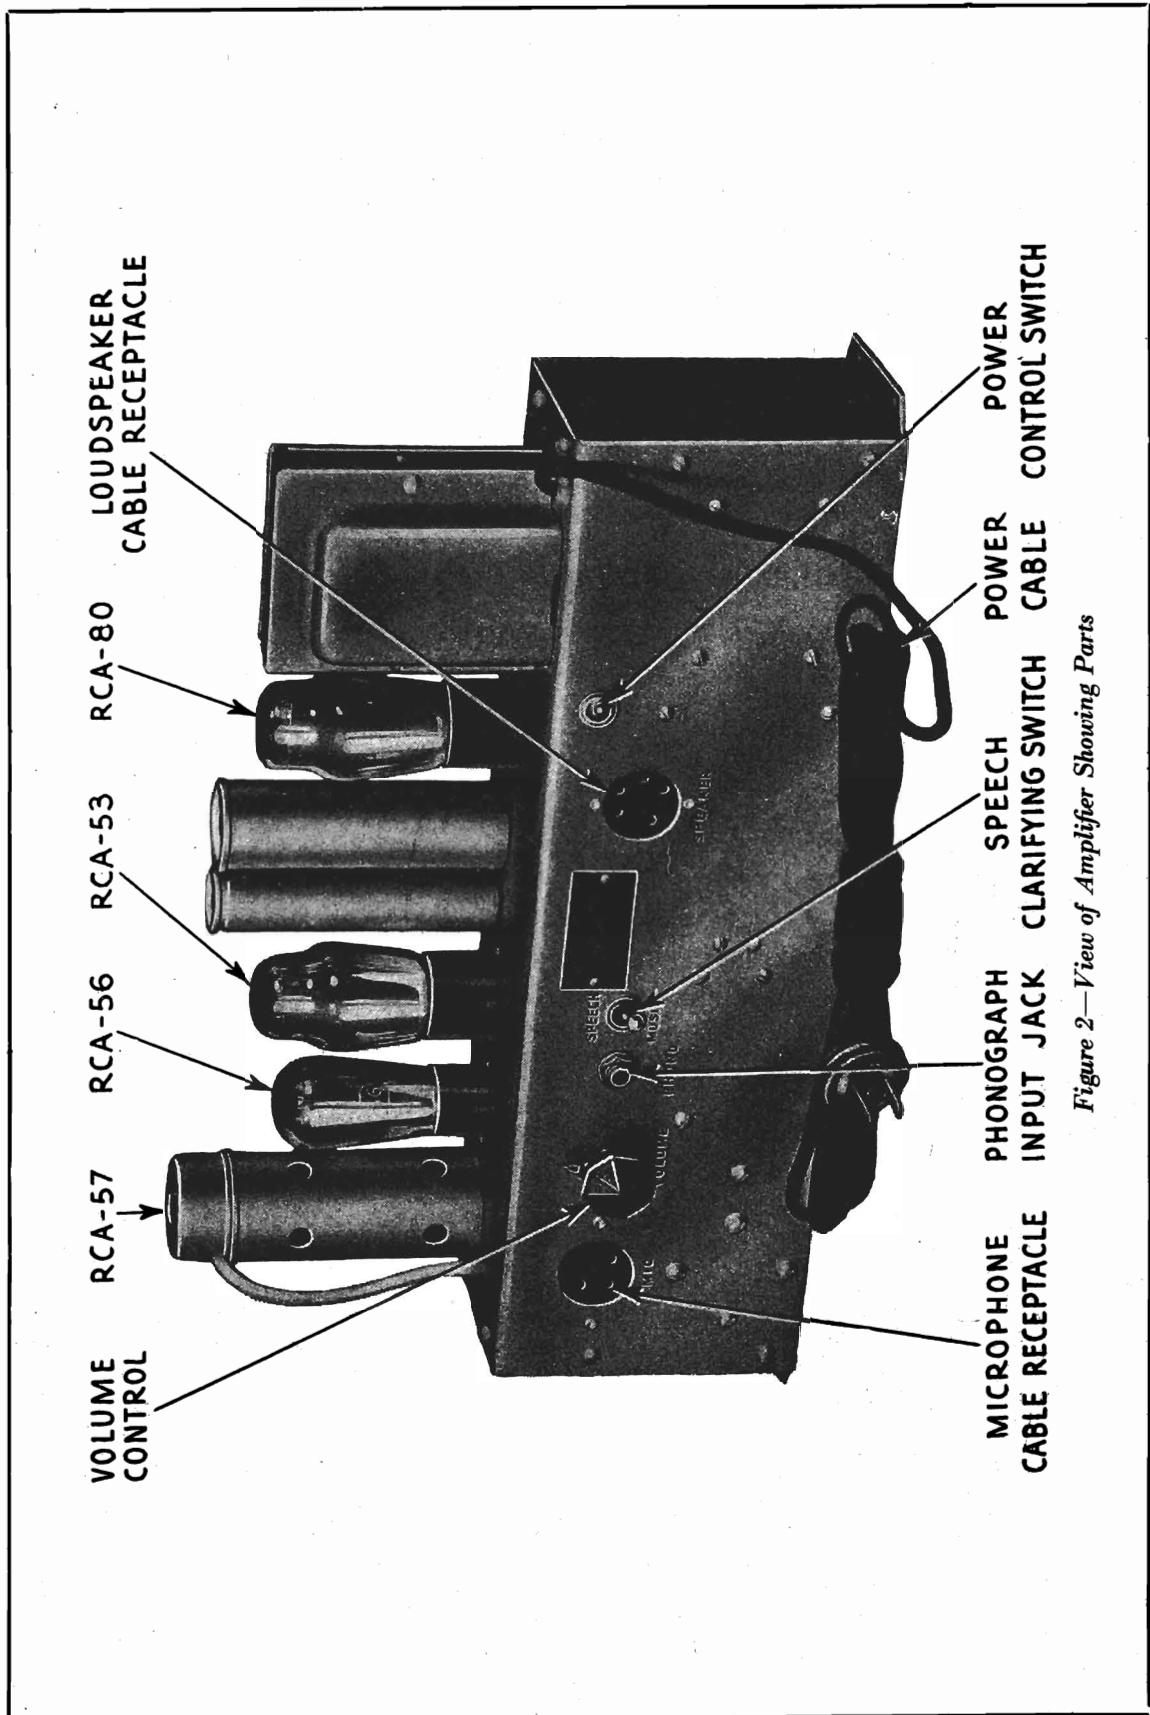

Figure 2—View of Amplifier Showing Parts
All controls are mounted on the amplifier base and are easily accessible to the operator. The controls consist of the power control switch, speech clarifying switch and the volume control knob. Figure 2 shows the locations of these controls.
- (a) That all Radiotrons are in their proper sockets and pressed down firmly. Never apply power to the instrument unless all Radiotrons are in place. Figure 2 shows the proper Radiotron locations.
1. Insert the Radiotrons in the sockets as shown in Figure 2.
After the equipment has been properly located and connected, it may be operated in the following manner: (Refer to Figure 2.)